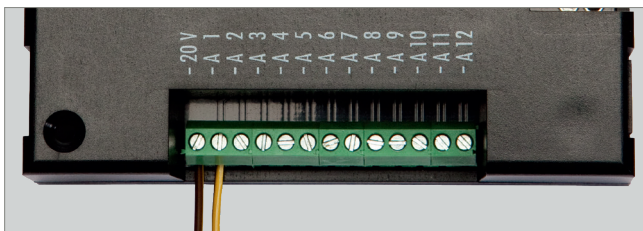

Fig. 7: Screw terminal output (A1 - A12). For instance 20 V.
- ▶ Connect the other end of the consuming device to the required output, see Fig. 7.